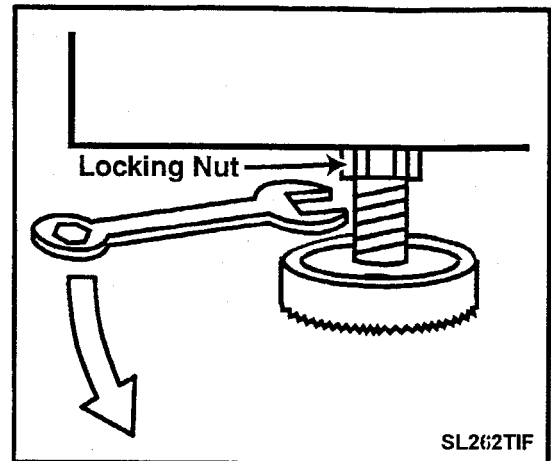

Figure 1-3
5. While holding foot still, turn the adjusting locknut clockwise until the nut is tightened firmly against base (**Figure 1-3**).